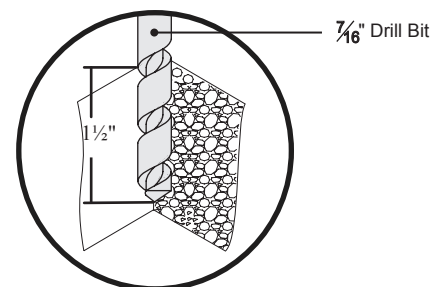

Figure 21. Drilling the Mounting Hole
- At each marked location, drill a  $\frac{7}{16}$ " hole  $1\frac{1}{2}$ " in depth (Figure 21). Repeat this step for the remaining locations.